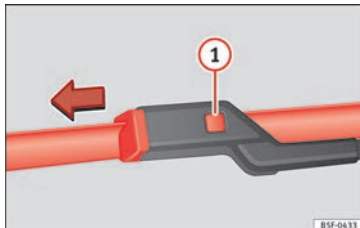

Fig. 80 Changing the windscreen wiper blades
- Press and hold release button » » » Fig. 80 ① and pull gently on the wiper blade in the direction of the arrow.